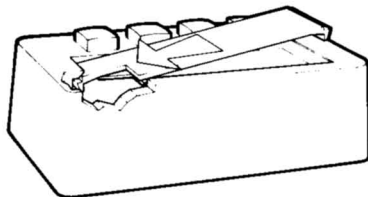

Fig. 5—Removing Designation Strip
- Provided with window and snap-in designation strip (Fig. 5)